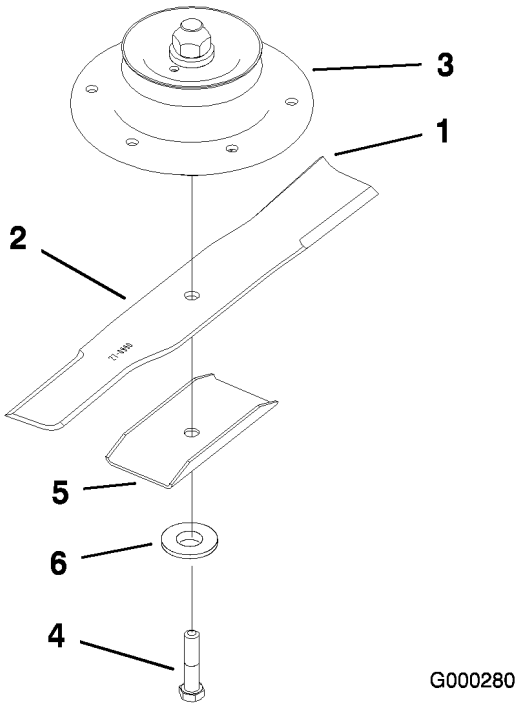
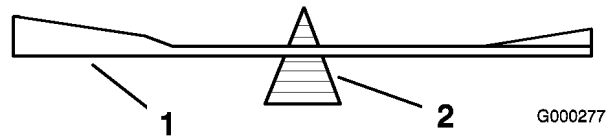

Figure 56
Figure 58
2. Remove the blade bolt, blade stiffener, washer, and blade from the spindle shaft (Figure 56).
2. Check the balance of the blade by putting it on a blade balancer (Figure 58). If the blade stays in a horizontal position, the blade is balanced and can be used. If the blade is not balanced, file some metal off the end of the sail area only (Figure 56). Repeat this procedure until the blade is balanced.
1. Install the blade onto the spindle shaft (Figure 56).
- Important:** The sail part of the blade must be pointing upward, toward the inside of the mower to ensure proper cutting (Figure 56).
2. Install the blade stiffener, flat washer and blade bolt (Figure 56).